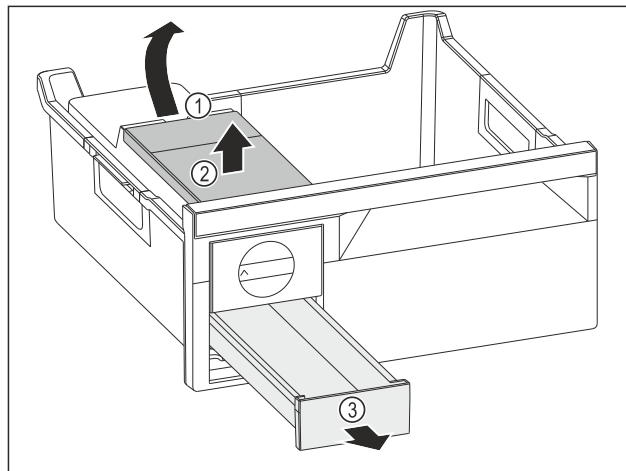

Fig. 162
- ▶ Removing the water tank: Lift the water tank at the recess Fig. 162 (1).
- ▶ Remove the water tank Fig. 162 (2) upwards.
- ▶ Remove the ice cube tray Fig. 162 (3) from the front.